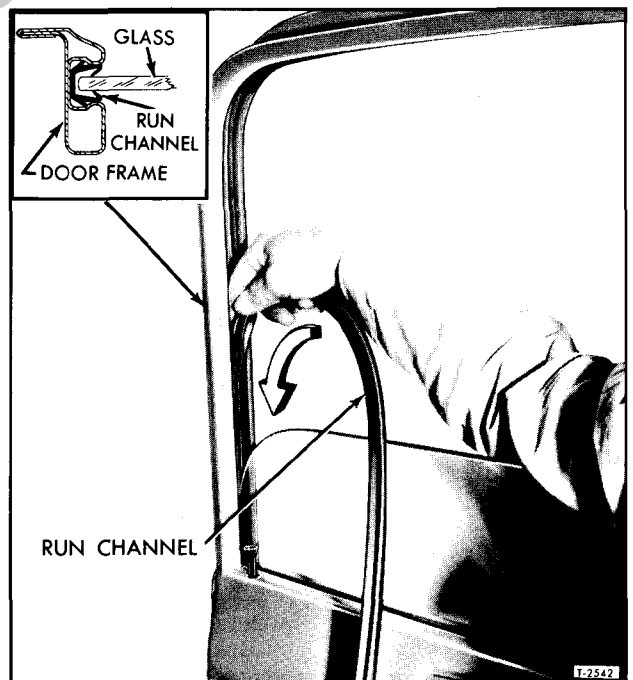

Figure 28—Installing Window Glass Channel Run
2. Start end of run channel into door side frame, then force it downward in manner shown in figure 28. By engaging length of channel required to butt against vent window frame, the amount of channel to be inserted downward can be determined. Use thumbs to press channel into position.